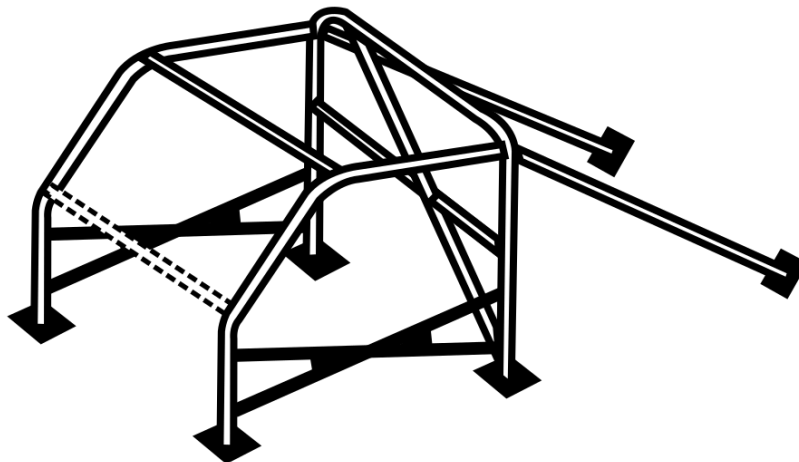

Fig. 2
- ❖ An X style door bar design (welded gussets recommended) on both driver and passenger sides, is also permitted. (See Fig. 2)